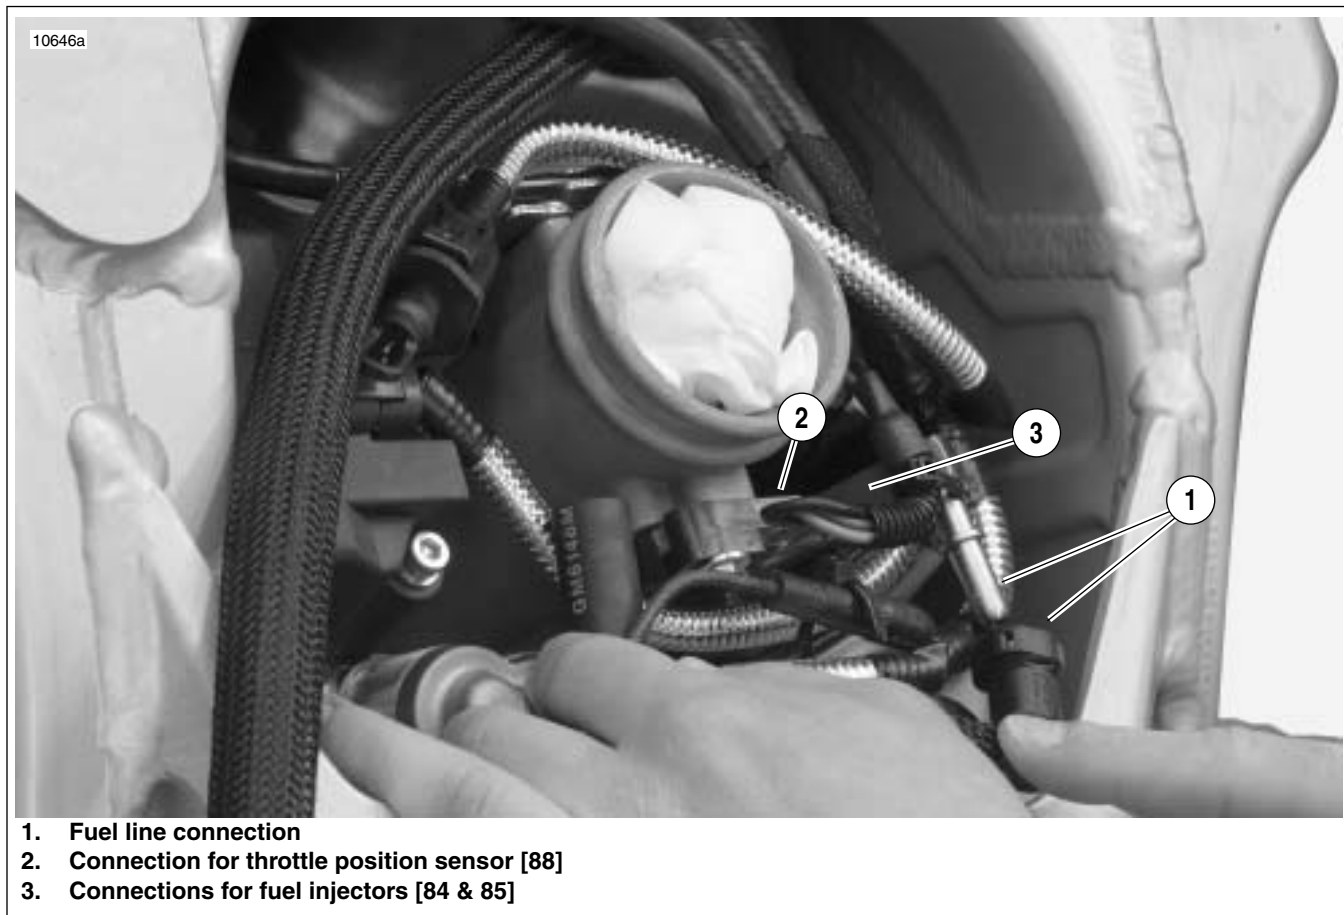

Figure 3-1. Fuel Line and DDFI Electrical Connections (Typical)
8. See Figure 3-1. Disconnect fuel line.